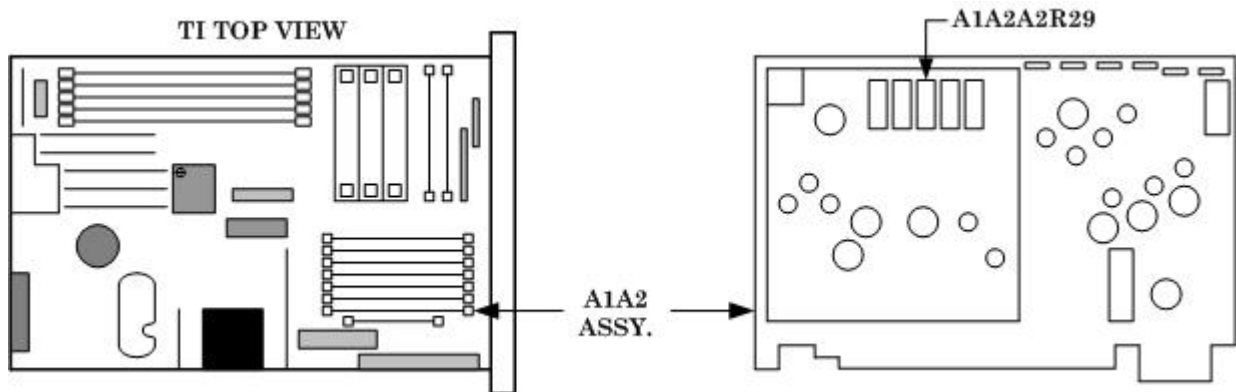
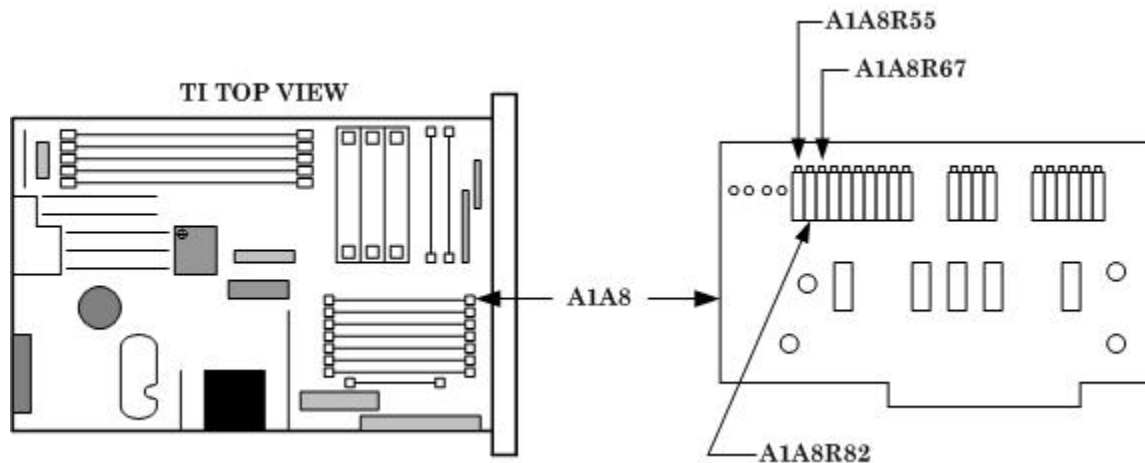

Figure 7. A1A2 board.
Figure 8. A1A8 board.
- (6) Press TI **RCL 1**.
- (7) Adjust A1A2A2R29 (fig. 7) for a measuring receiver indication of -3.0 dBm (R).
- (8) Using **TUNE KNOB**, tune the test instrument from 2 to 6.6 GHz. Record minimum and maximum measuring receiver indications and frequencies where they occur.
- (9) Adjust A1A8R55 (fig. 8) to reduce the difference between minimum/maximum power indications (R).
- (10) Using **TUNE KNOB**, tune the test instrument to 2 GHz.
- (11) Readjust A1A2A2R29 (fig. 7) for a measuring receiver indication of 3.0 dBm.
- (12) Tune the test instrument from 2 to 6.6 GHz. Verify that the output level stays within ± 1 dB of -3 dBm.
- (13) Repeat (8) through (12) above until level stays within 1 dB of -3 dBm or until no further improvement can be made.
- (14) Press TI **RCL 2**.
- (15) Using **TUNE KNOB**, tune the test instrument from 6.600002 to 12.99902 GHz. Record minimum and maximum measuring receiver indications and frequencies where they occur.
- (16) Adjust A1A8R82 (fig 8) to minimize difference between minimum and maximum power indications (R).
- (17) Press TI **SWEEP MODE OFF, FREQ INCR, 2, 0, 0**, and **MHz** keys.
- (18) Verify the measuring receiver indicates -3 dBm ± 0.2 dBm. Readjust A1A2A2R29 (fig. 7) as necessary for best compromise.
- (19) Using **TUNE KNOB**, tune the test instrument from 2 to 12.2 GHz. Verify that the difference between the minimum and maximum power indications are equal to or less than 3 dB.
- (20) Press TI **RCL** and **3** keys.
(21) Using **TUNE KNOB**, tune the test instrument from 12.300003 to 17.5999901 GHz. Record minimum and maximum measuring receiver indications and frequencies where they occur.
(22) Adjust A1A8R67 (fig. 8) to minimize difference between minimum and maximum power indications (R).
(23) Press **TI SWEEP MODE OFF**, **FREQUENCY, 2**, and **GHz** keys.
(24) Adjust A1A2A2R29 (fig. 7) for a measuring receiver indication of -3.0 dBm.